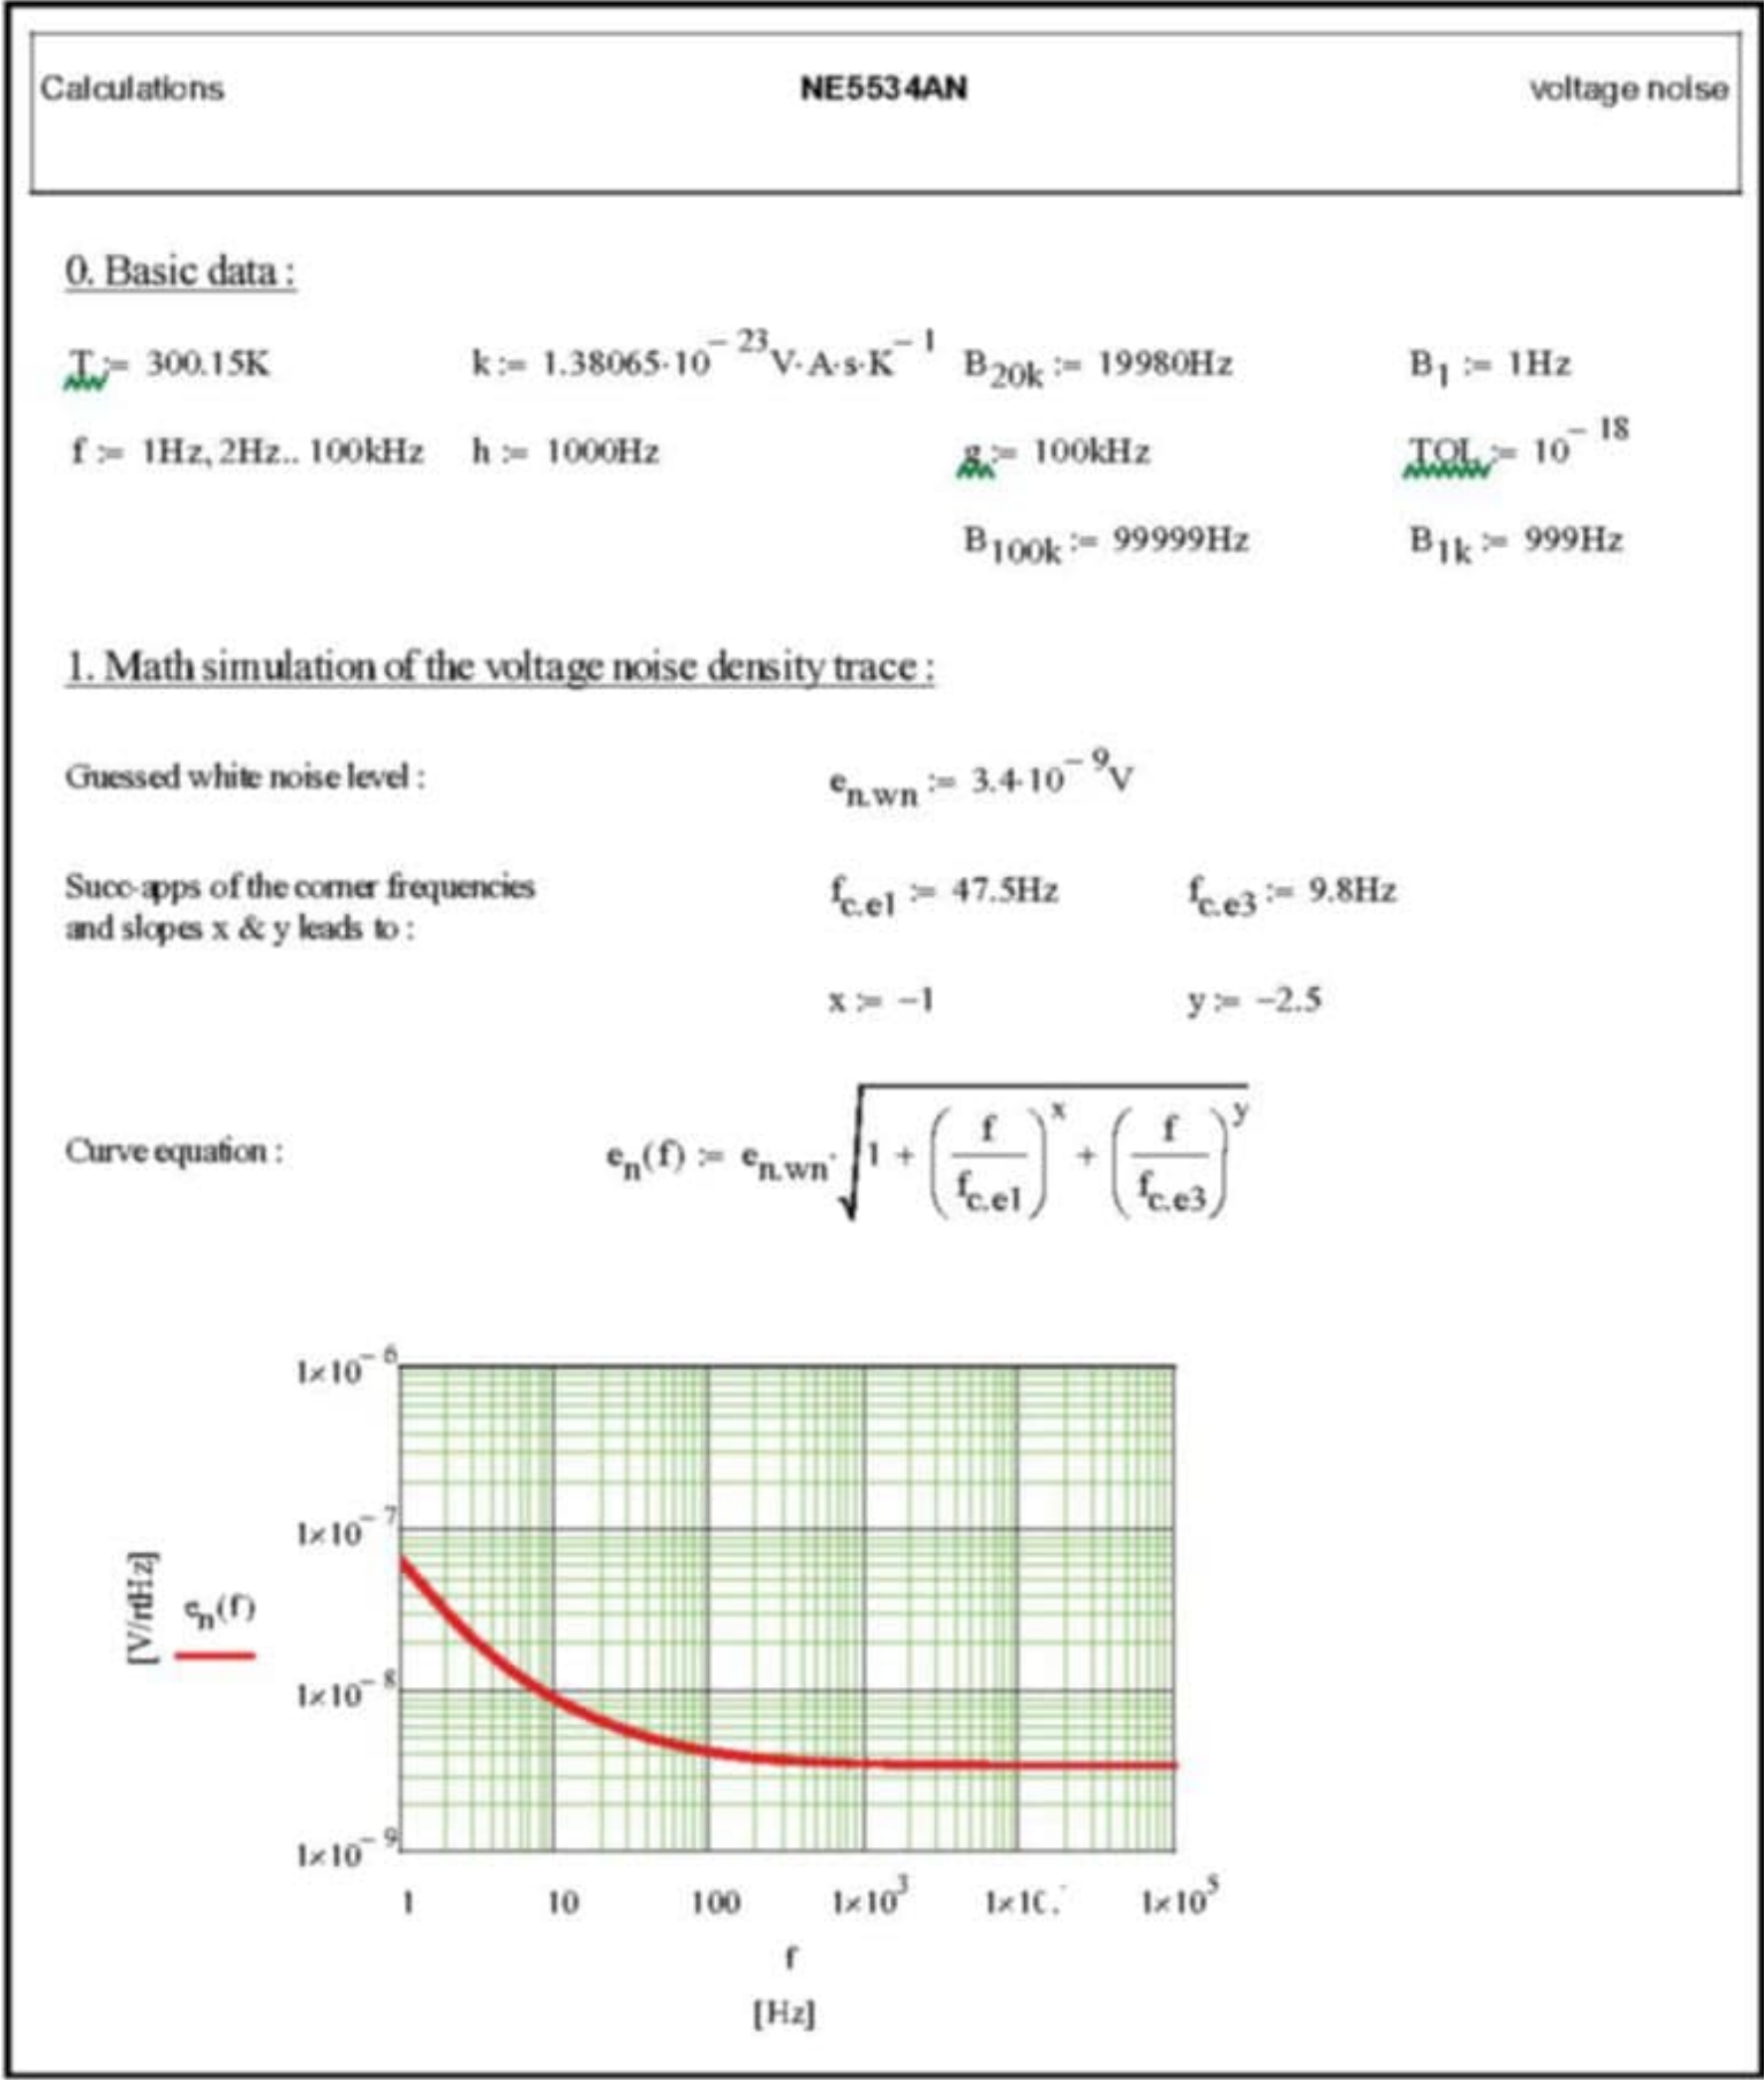
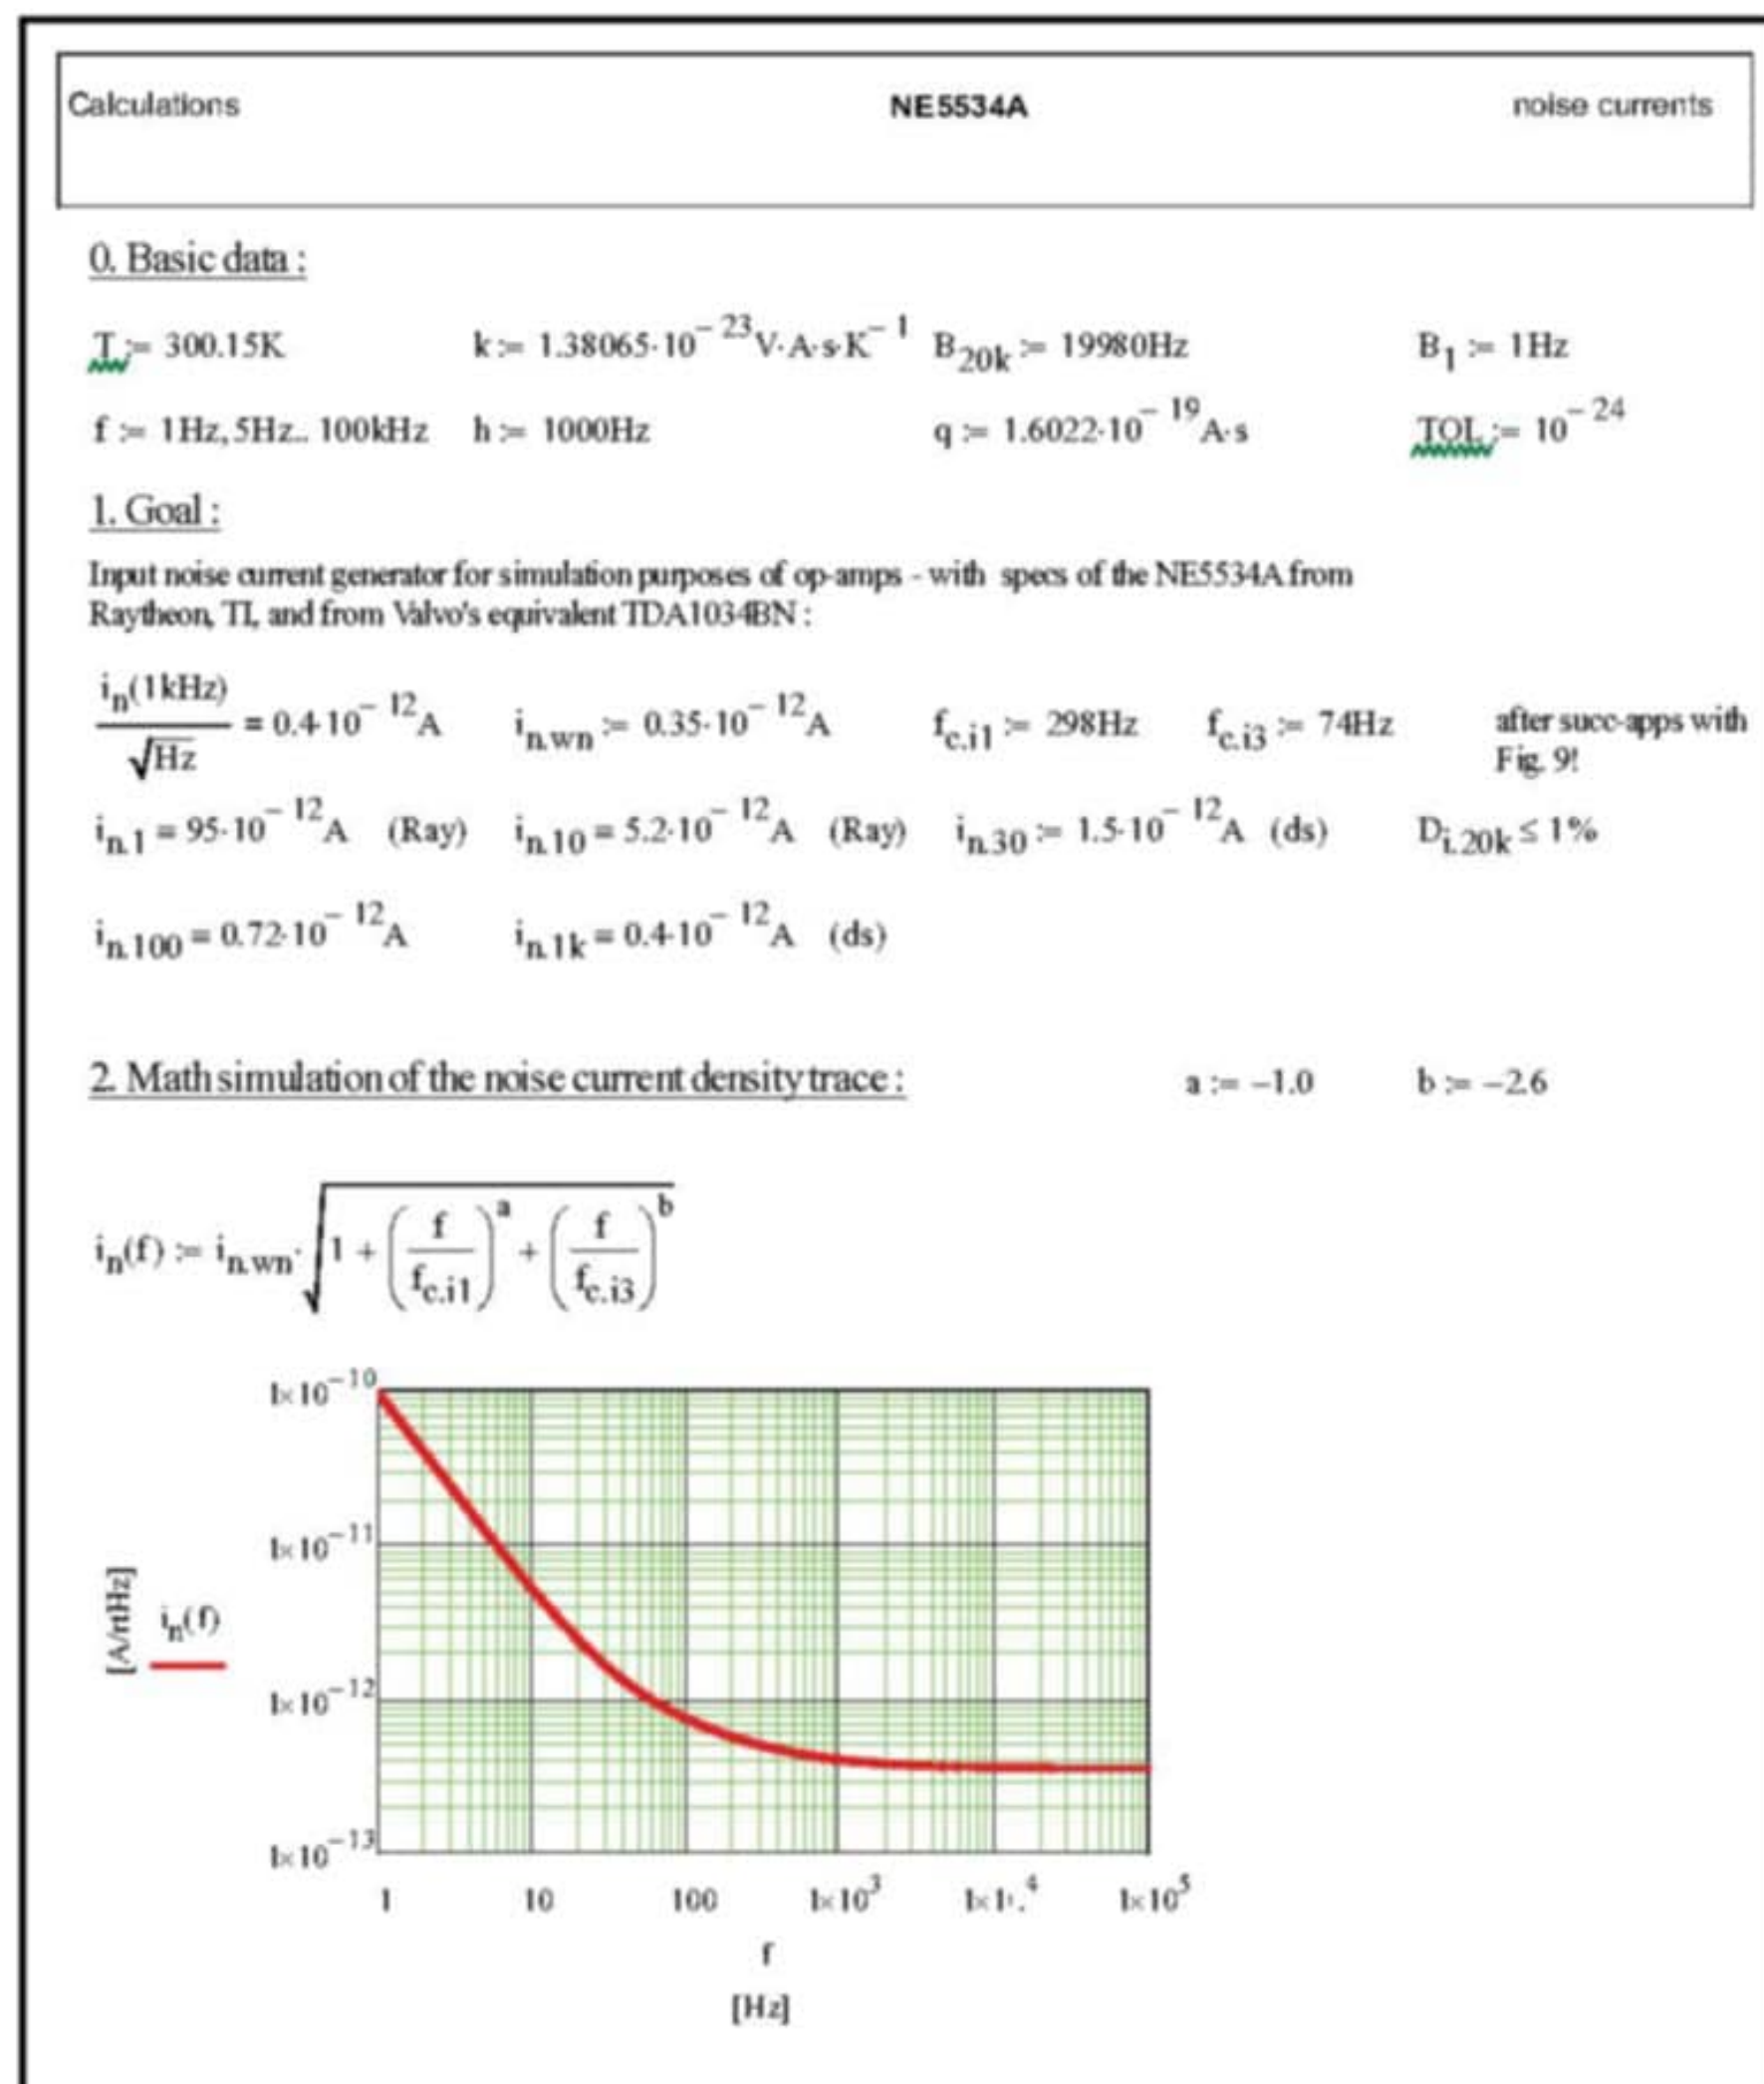
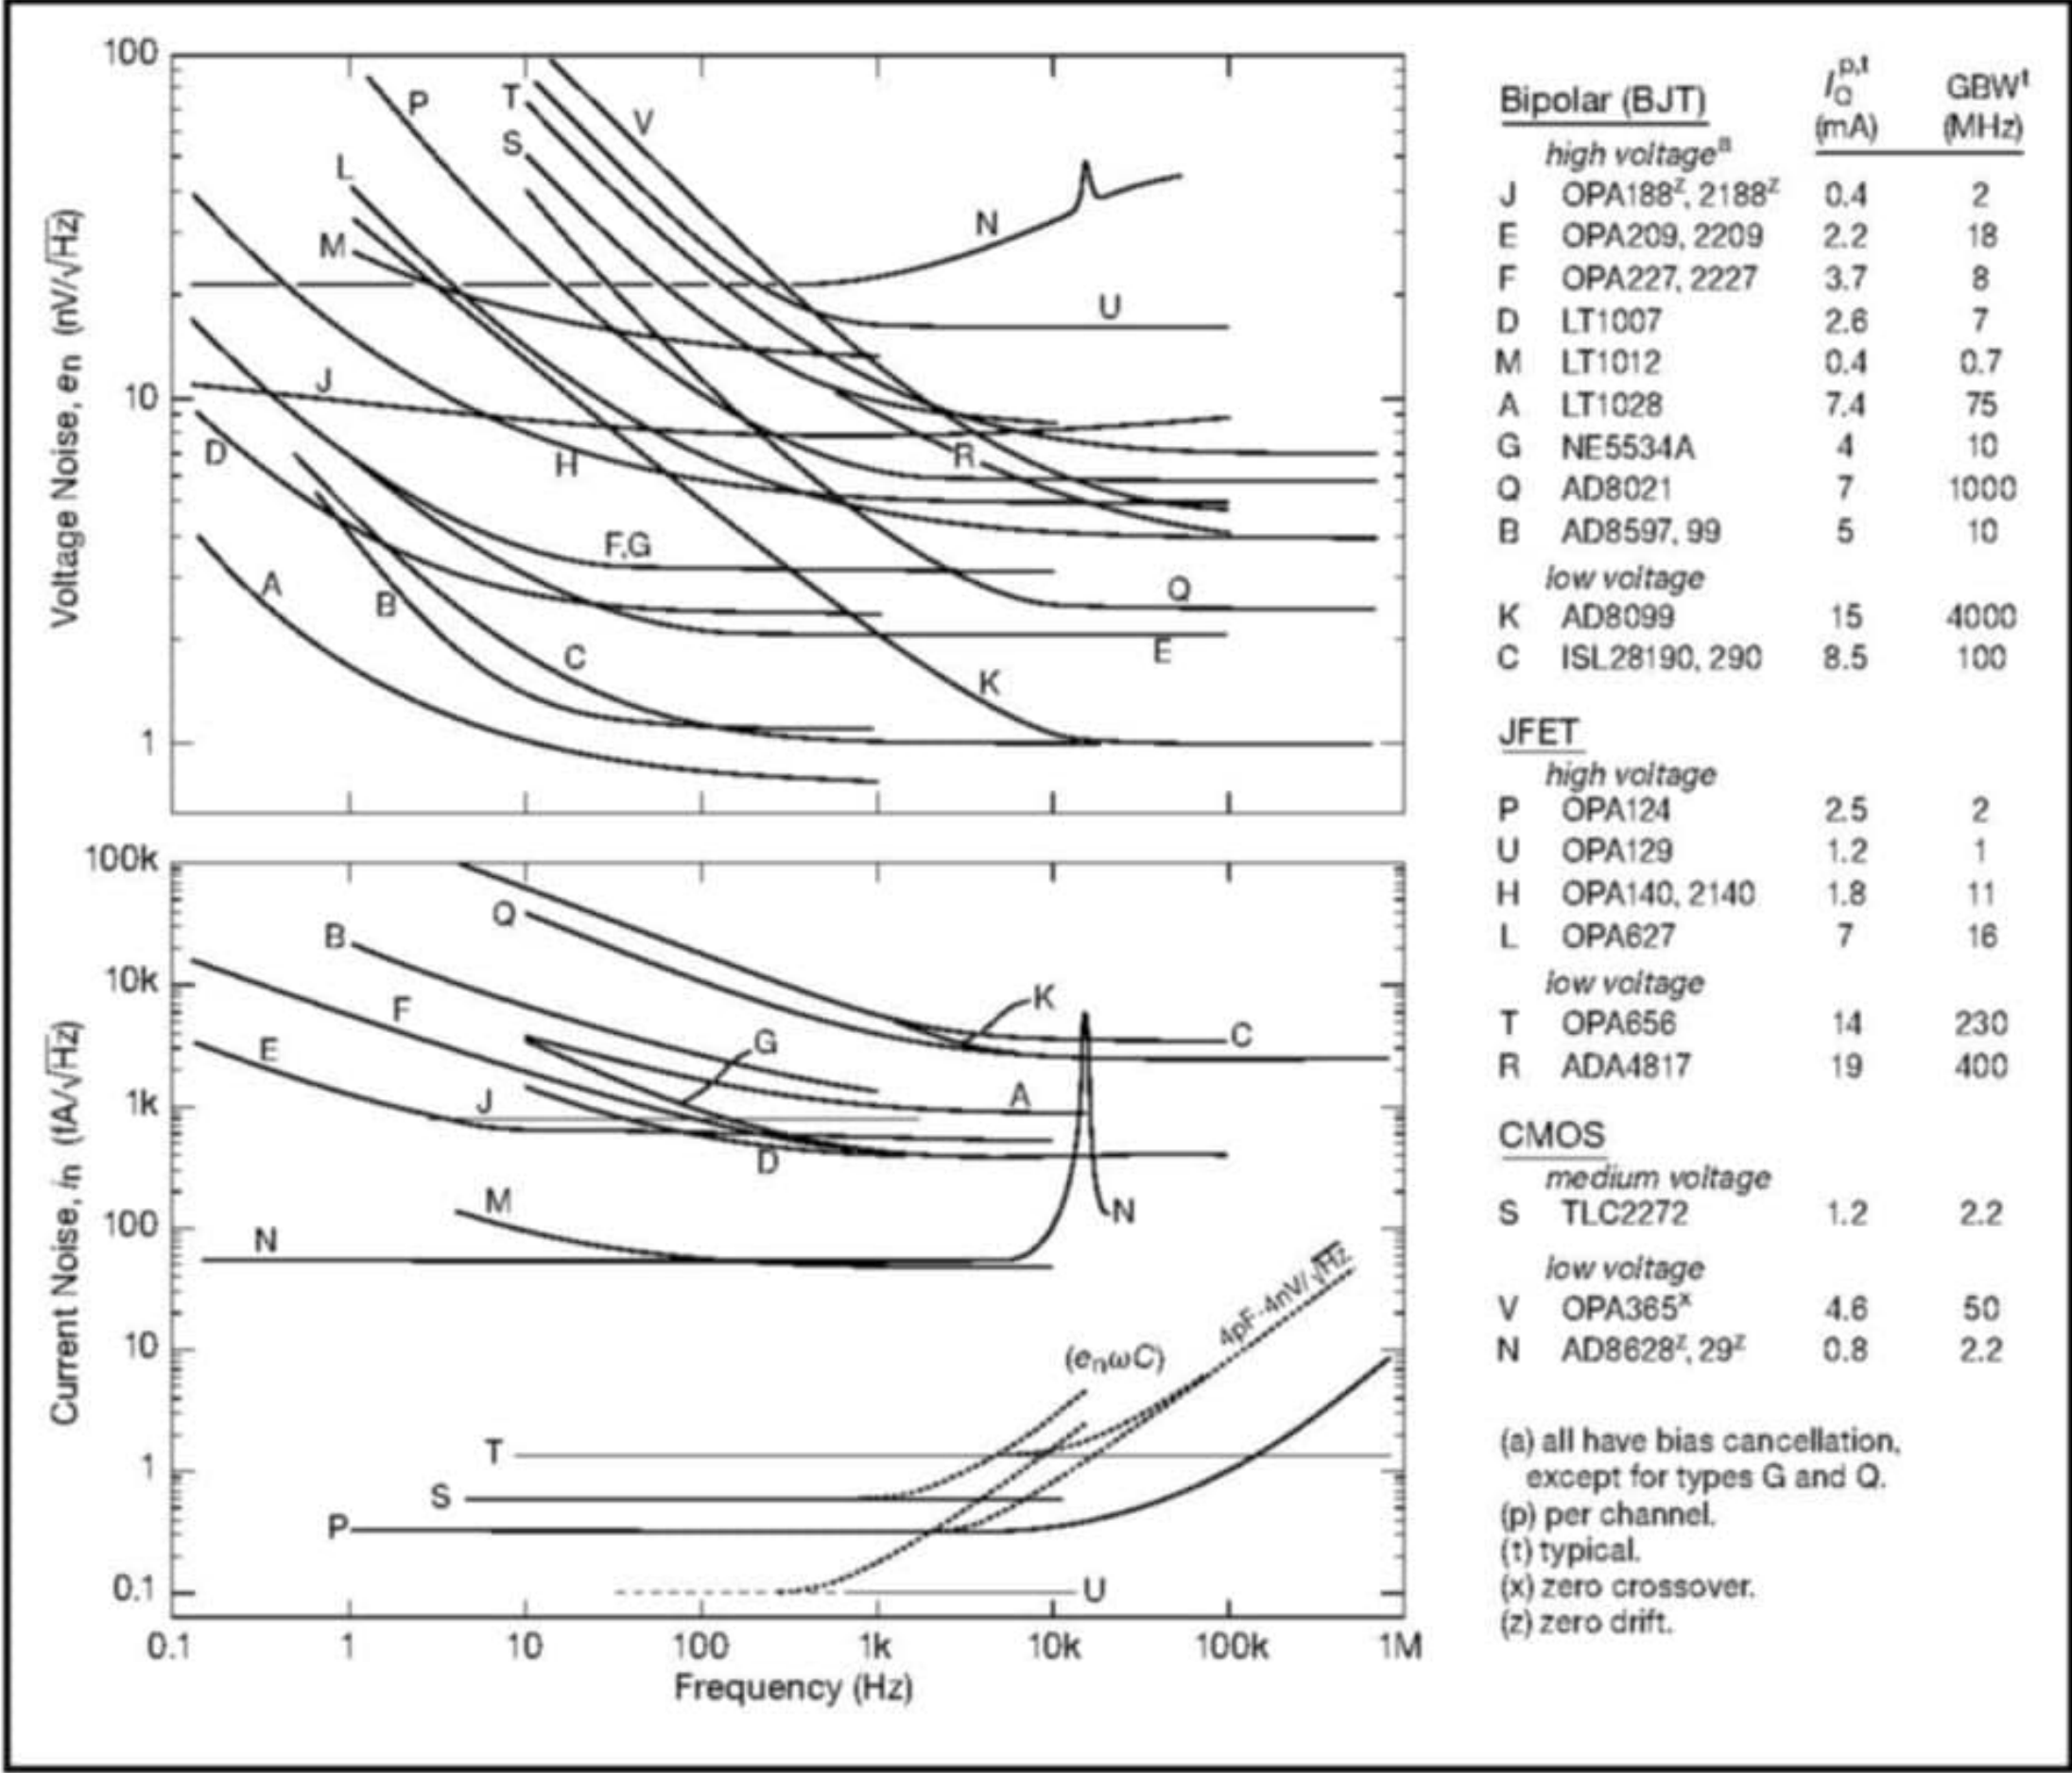

Figure 6: Mathematically constructed trace of 5534A's (and TDA1034B's) equivalent input voltage noise
Figure 7: Mathematically constructed trace of 5534A's (and TDA1034B's) equivalent input current noise
Figure 8: This is Figure 8.60 (a, b, c, d) from Winfield Hill and Paul Holowitz's book, *The Art of Electronics*.
| 1Hz                                                        | 65.0             | Figure 6 | nn         | DS table + DS Figure 7 | nn             | DS     |                |     |     |  |
| 100Hz                                                      | 4.2              | Figure 6 | 4.2        |                        | nn             |        |                |     |     |  |
| 10kHz                                                      | 3.4              | Figure 6 | 3.5        |                        | nn             |        |                |     |     |  |
| 1Hz                                                        | 95.0             | Figure 7 | nn         | DS table + DS Figure 8 | nn             | DS     |                |     |  |  |
| 100Hz                                                      | 0.7              | Figure 7 | 0.7        |                        | nn             |        |                |     |  |  |
| 10kHz                                                      | 0.35             | Figure 7 | 0.4        |                        | nn             |        |                |     |  |  |
Fortunately, there is no difference between the voltage noise traces of the three datasheets. The only exception is that the X-ordinates of Valvo's datasheet start at 10Hz. Thus, **Figure 6** and **Figure 7** exactly mirror the curves of the datasheets. The Mathcad (MCD) worksheet (available in the Supplementary Material) explains how to get them.
The trace in the graph of Figure 6 ( $e_n = 3.1 \text{ nV/rHz}$  at 1kHz, first 1/f-noise corner frequency  $f_{c,e1} = 50\text{Hz}$  does not exactly match the NE5534 data from Table 8.3a in Hill and Horowitz's *The Art of Electronics* book ( $e_n = 3.5 \text{ nV/rHz}$  at 1kHz,  $f_{c,e1} = 50\text{Hz}$ ).
However, and previously mentioned without data, the trace in the graph of Figure 7 ( $i_n = 0.4 \text{ pA/rHz}$  at 1kHz, first 1/f noise
- [5] SLOS070D Datasheet, Texas Instruments, July 1979, Revised November 2014, Figure 7 and Figure 8.
- [9] Graph courtesy of Texas Instruments (TI), [www.ti.com](http://www.ti.com).